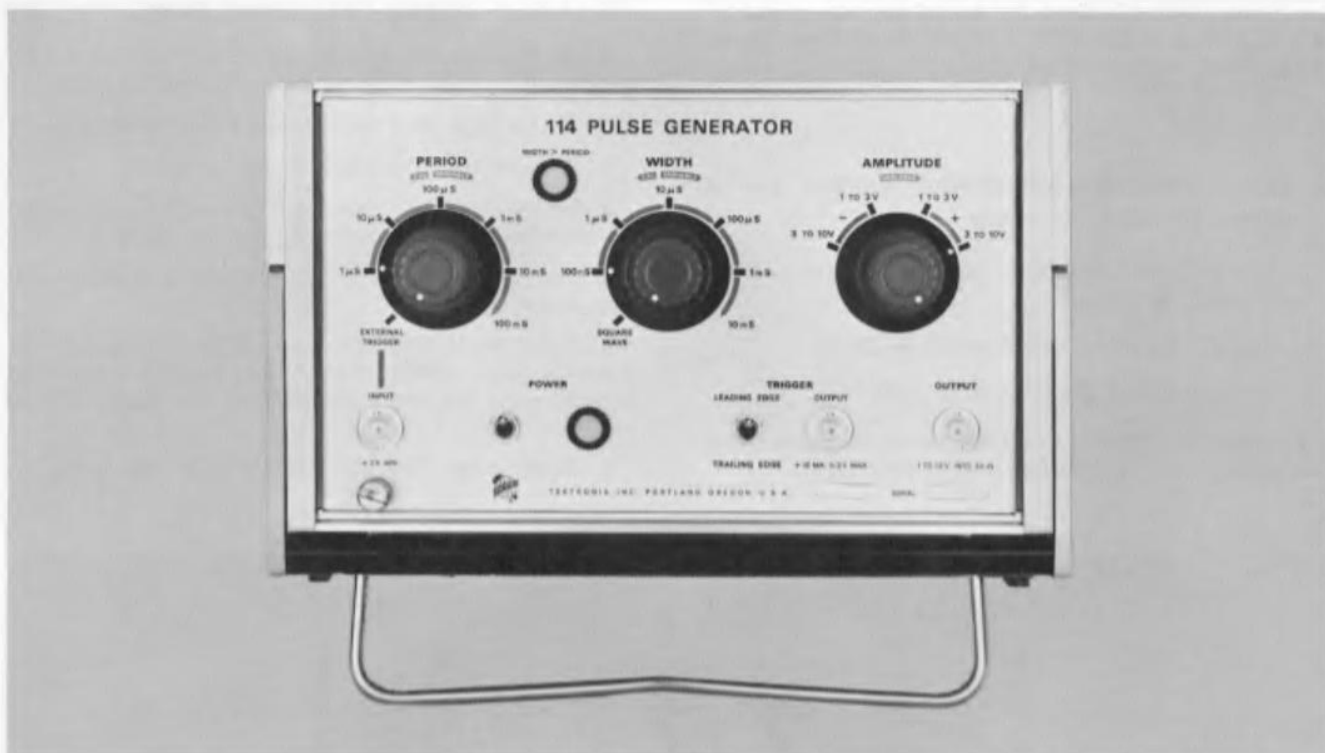

Fig. 4-8. Control settings for adjusting the 1 microsecond period capacitor.
a. Set the Type 114 PERIOD control to 1 μ S, the WIDTH control to 100 nS, and both PERIOD — and WIDTH — VARIABLE controls to CAL (see Fig. 4-8).